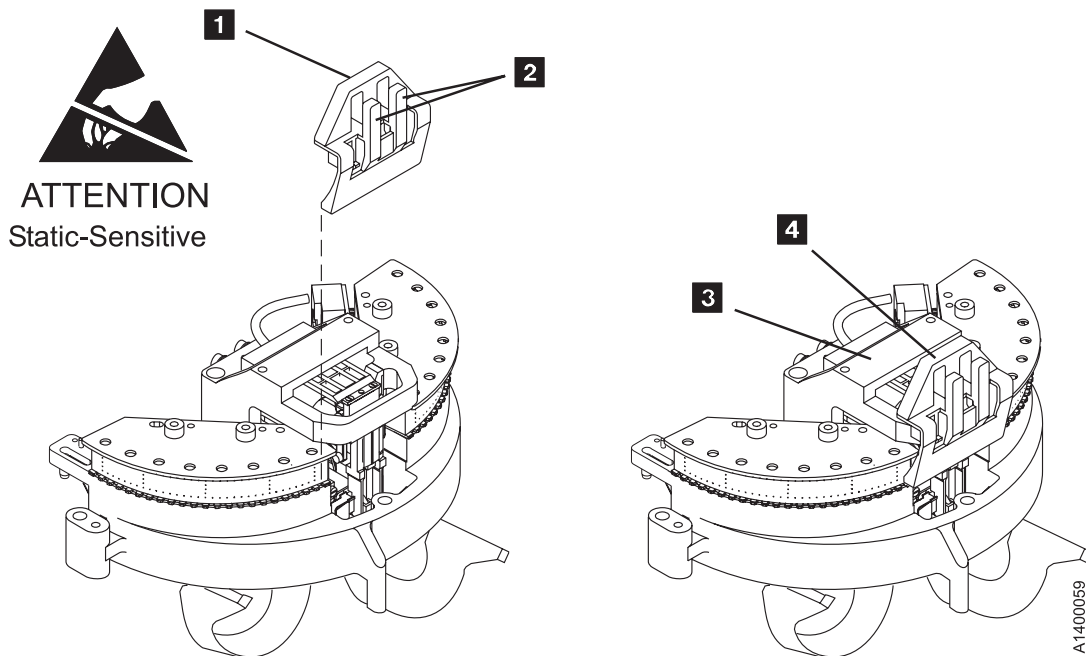

Figure 350. Head Protector P/N 05H4778
3. Remove the deck enclosure back cover. See “Deck Enclosure Covers” on page PROC-23. See Figure 350.